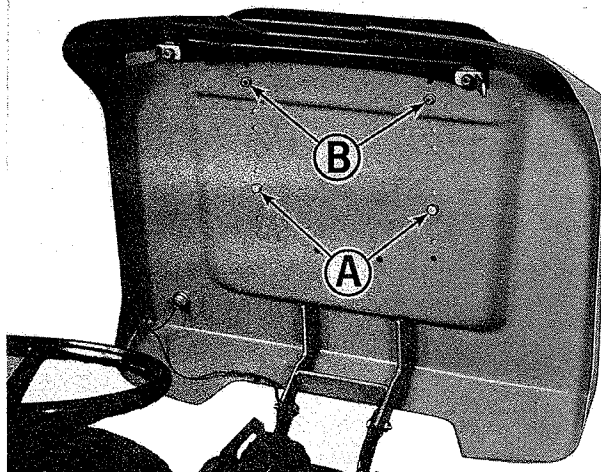
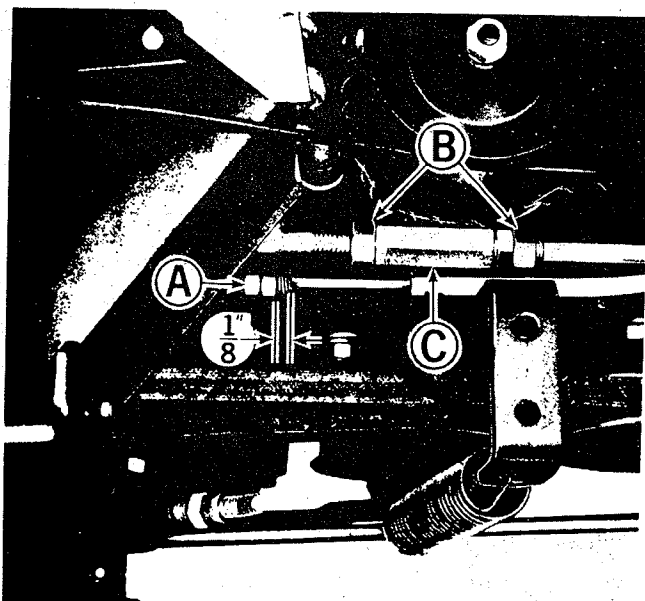

Figure 9. Seat deck raised.
Figure 10. Clutch free travel and hydrostatic transmission neutral adjustment.
locks out raise the seat deck as shown in figure 9. Raising the seat deck in this manner will expose many of the transmission adjustment and maintenance areas.
See figure 9. The tractor seat is properly adjusted when the operator can comfortably operate the clutch and brake pedal while sitting back in the seat. The seat can be adjusted forward or back in any of four positions. If adjustment is required, proceed as follows:
1. See figure 9. Position the seat deck as shown by following the instructions under Raising the Seat Deck on page 10.
2. Remove the two cap screws and lock washers at (A).
3. Remove the two nuts and lock washers at (B).
4. If the seat is to be positioned in either of the two forward sets of mounting holes the two rubber spacers are placed over the studs at (B) and used between the seat and seat deck. If
See figure 10. The clutch free travel is correct when there is 1/8" between the nuts (A) and the rod guide when the clutch brake pedal is released and pulled rearward as far as it will go. If adjustment is required, proceed as follows:
1. Raise the seat deck as shown in figure 9, by following the instructions under Raising the Seat Deck on page 10.
2. Using two wrenches hold the forward nut at (A) stationary with one wrench while turning the rearward nut counter-clockwise slightly with the other to separate them.
4. Turn the forward nut at (A) as necessary so that the distance between it and the rod guide is 1/8" as shown in figure 10.
5. Using two wrenches hold the forward nut at (A) stationary while turning the rear one clockwise to tighten the two nuts together securely.
3. See figure 10. Loosen the two locking nuts (B) on either end of turnbuckle (C).
7. Use an open end wrench to rotate the turnbuckle (Figure 10, item C) until the rear wheels do not rotate. When the rear wheels do not rotate when the engine is running at 1/3 full speed, the hydrostatic neutral adjustment is correct.
9. See figure 10. After allowing the belt and pulleys to stop turning, use two wrenches to tighten the locking nuts (B) against turnbuckle (C). Tighten the locking nuts (B) one at a time, while using the other wrench to hold turnbuckle (C) from rotating.